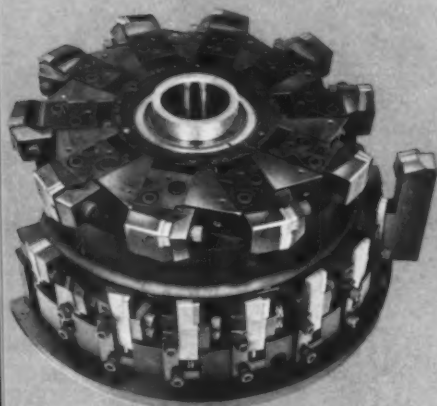

FIG. 1
**FIG. 1**—An example of how separate operations are eliminated by combining tools. This cutter does the lion's share of the work in producing brake drums for a prominent 1958 car. The twenty tools include six single point brazed tools with screw adjustment, and 15 throw-away insert types. They rough bore the entire drum, chamfer it, plunge cut a face on the OD and a cooling groove between ID and OD.